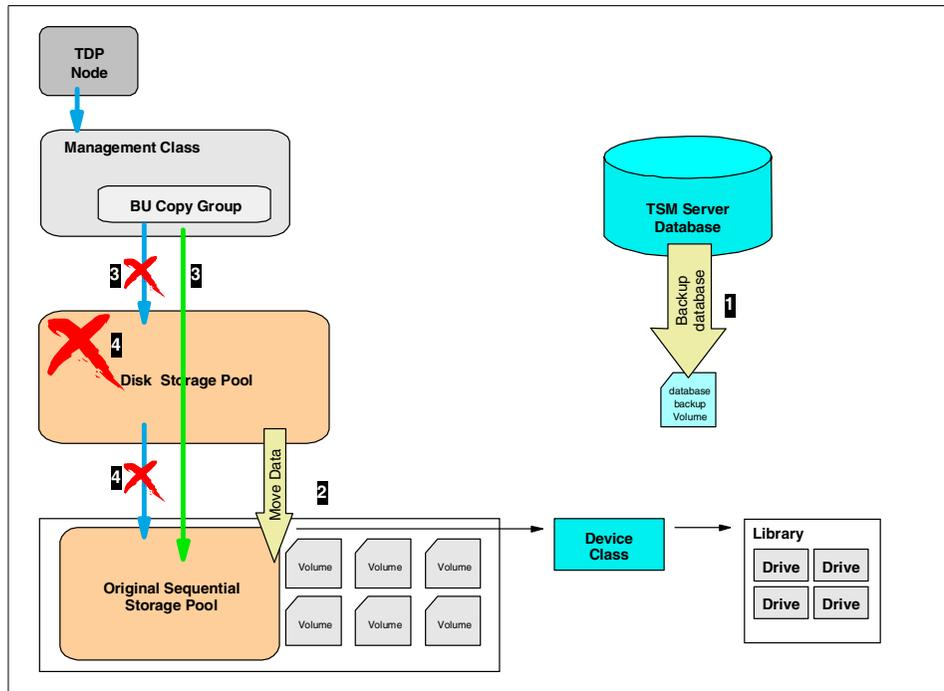

Figure 91. Preparing the server for export
1. The first step will be the preparation of the Tivoli Storage Manager server running on the application server. The tasks involved are shown in Figure 91.
- a. Start by backing up the original Tivoli Storage Manager database (1). This will allow you to fallback to the state you were in before starting the migration. A full or snapshot database backup can be used for this purpose.
- c. Move all the backup data belonging to the TDP client and residing in a disk storage pool to the tape storage pool (2).
- d. After doing this, update the management class of the TDP client, so that it points to the tape storage pool (3). You can also already delete the disk storage pool used by the TDP client, and its associated volumes (4). The reason for doing this is that, as stated before, the Storage Agent will not use a disk storage pool. To simplify the import process afterwards, it is a good practice to set up this situation as it will be in the new environment.